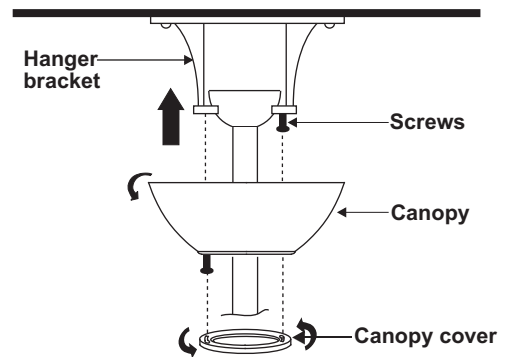

Figure 12
8. Slide the canopy up to hanger bracket and place the key hole on the canopy over the screw on the hanger bracket, turn canopy until it locks in place at the narrow section of the key holes. (Fig. 12)